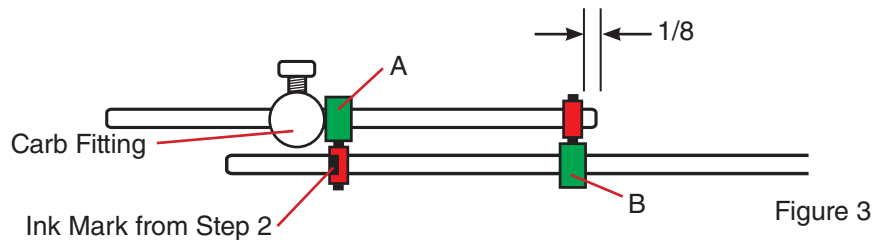

Figure 3
- Slip iTroll's stainless steel throttle rod through Yamaha carb fitting and through slip connectors as shown in Fig. 3.
- HOLD slip connector "A" in Fig 3 against brass carb fitting.